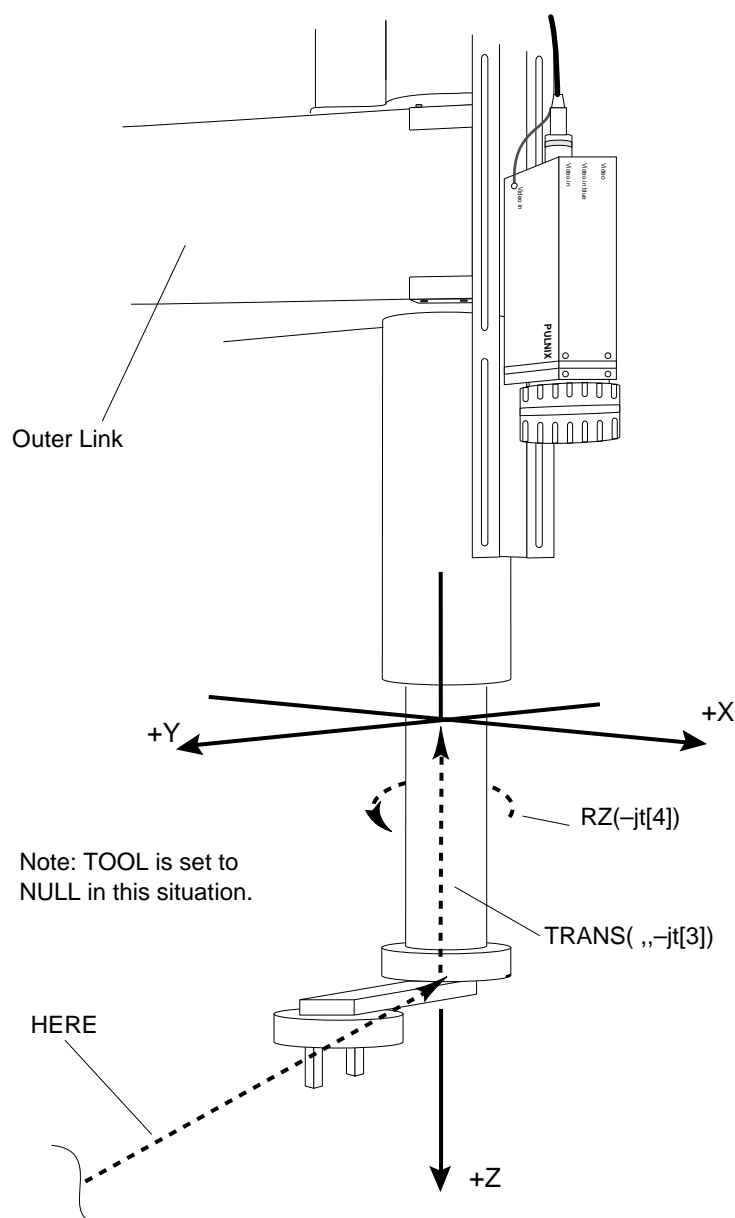
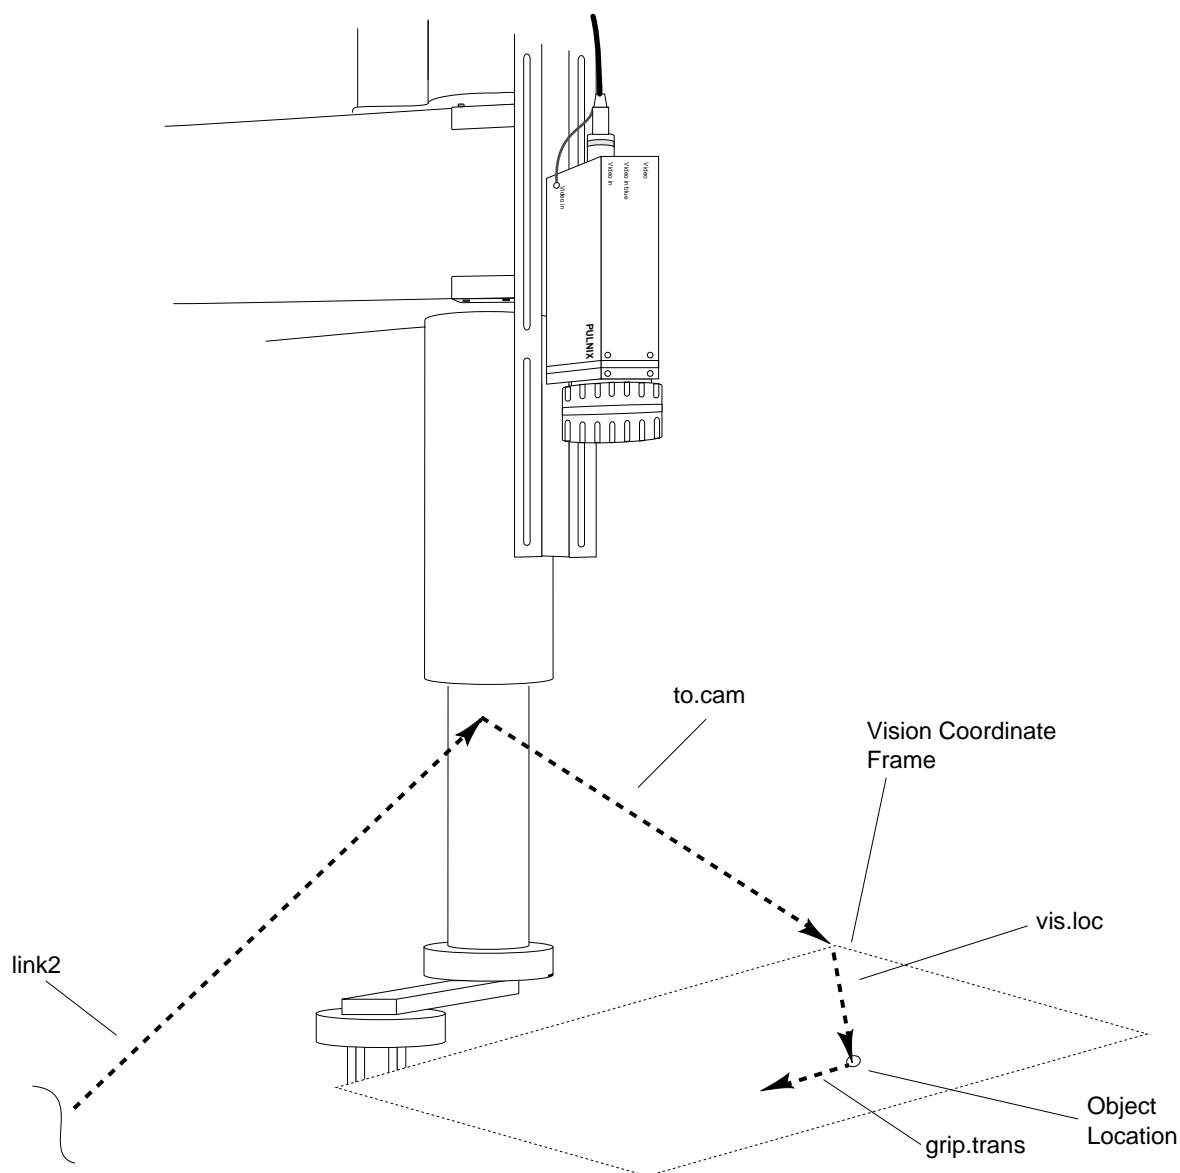

Figure 14-4. Calculating the Link2 Transformation
Figure 14-5. Components of the Vision Location
**Figure 14-4** shows the link transformation, **link2**, that was calculated by the preceding program instructions. The program instruction **HERE** creates a transformation in world coordinates that represents the current tool tip. **RZ(-jt[4])** removes any rotation of joint4 from the resulting transformation. **TRANS(,-jt[3])** removes any quill extension from the transformation. Note: the preceding program and **Figure 14-4** assume that a NULL TOOL is invoked. If a NULL TOOL is not used, then the link transformation (last code line on page 262) should be changed to:
**Figure 14-5** shows how the remaining components of the location are calculated. **link2** was calculated as shown in **Figure 14-4**. **to.cam** [1] (created during camera calibration) is added to create a transformation relating the vision coordinate system to the world coordinate system. **vis.loc** (returned by a vision operation—blob recognition in this case) is added to create a transformation that represents the location of the found part in the XY plane of the vision coordinate system. **RZ(VFEATURE(48))** is added to give the orientation of the part. **grip.trans** is added to create a transformation that offsets and/or rotates the gripper if the found object is to be acquired at a location offset or rotated from the location returned by the vision operation.